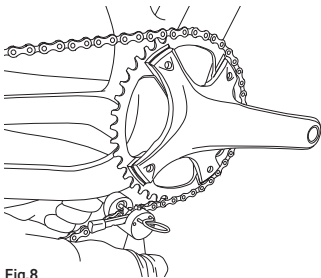

Fig.8
- Position the tool **UT-CN400** as shown in Fig. 8.